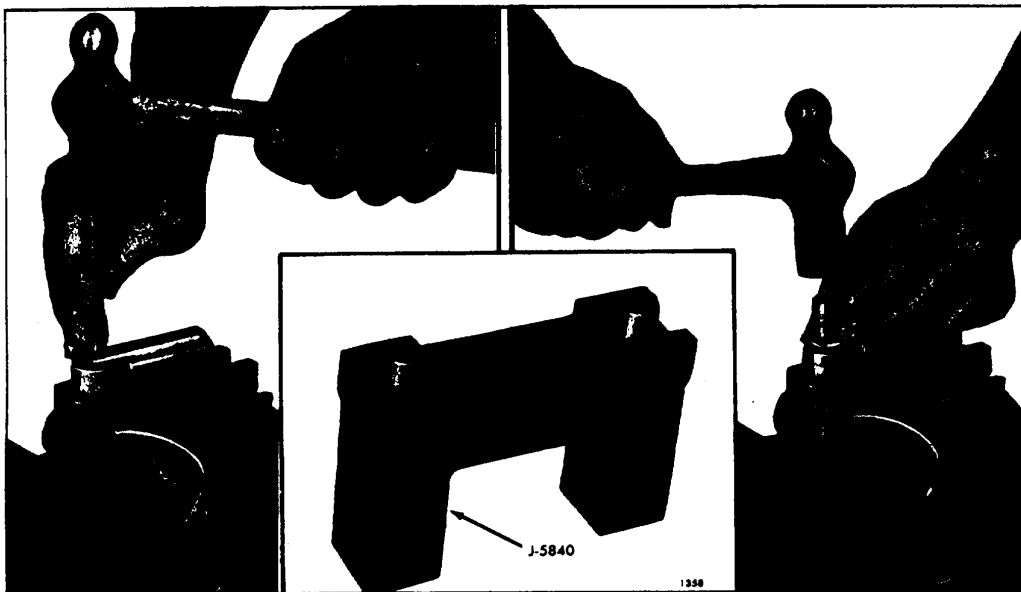

Fig. 7. - Removing or Installing Cam Follower Roller and Pin with Tool J 5840
1. Clamp fixture J 5840 securely in a vise as shown in Fig. 7 and place the cam follower in the groove in the top of the fixture with the follower pin resting on top of the corresponding plunger in the fixture.
6. Position the-roller in the cam follower body (Fig. 7). The small plunger in the tool will align the roller with the pin holes in the follower body.